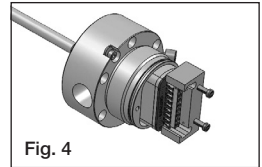

Fig. 4
Step 3: Program the electrical stroke in accordance with the instructions in the standard Micropulse linear position sensor user's guide. (Fig. 4)